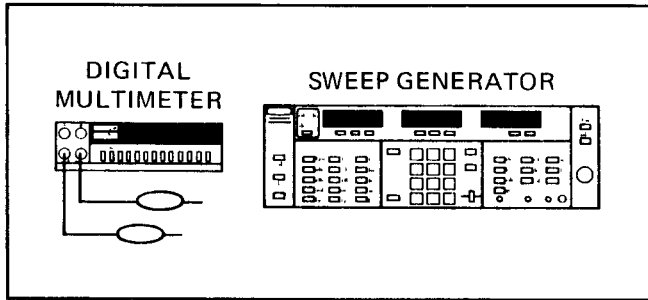

Figure 5-17. Test Equipment Setup for Het/YIG Driver Adjustments
1. Set up the test equipment as shown in Figure 5-17, and turn the equipment on.